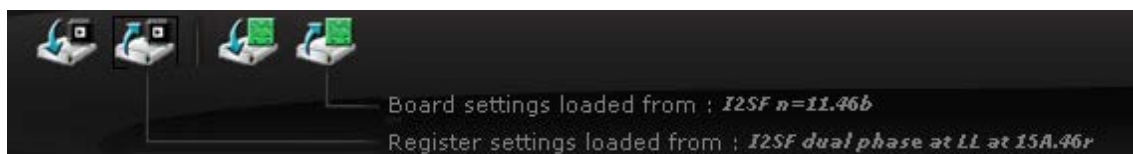

Figure 10. Different Icons on Dashboard for Loading and Saving .46r and .46b Files
8. The original register configuration is stored in the **ADP1046A\_I2SF\_B\_XXXX.46r** register file. (Note that all register files have an extension of .46r.) The file can be loaded using the second icon from the left in Figure 10. The IC on the board is preprogrammed, and this step is optional.